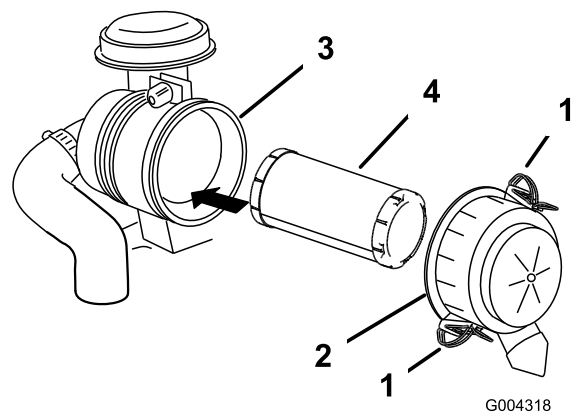

Figure 32
3. Release the latches on the air cleaner and pull the air cleaner cover off of the air cleaner body (Figure 32).
5. Gently slide the air filter out of the air cleaner body (Figure 32). Avoid knocking the filter into the side of the body.
2. Carefully slide the air filter into the body (Figure 32).
3. Install the air cleaner cover with the side indicated as UP facing up and secure the latches (Figure 32).